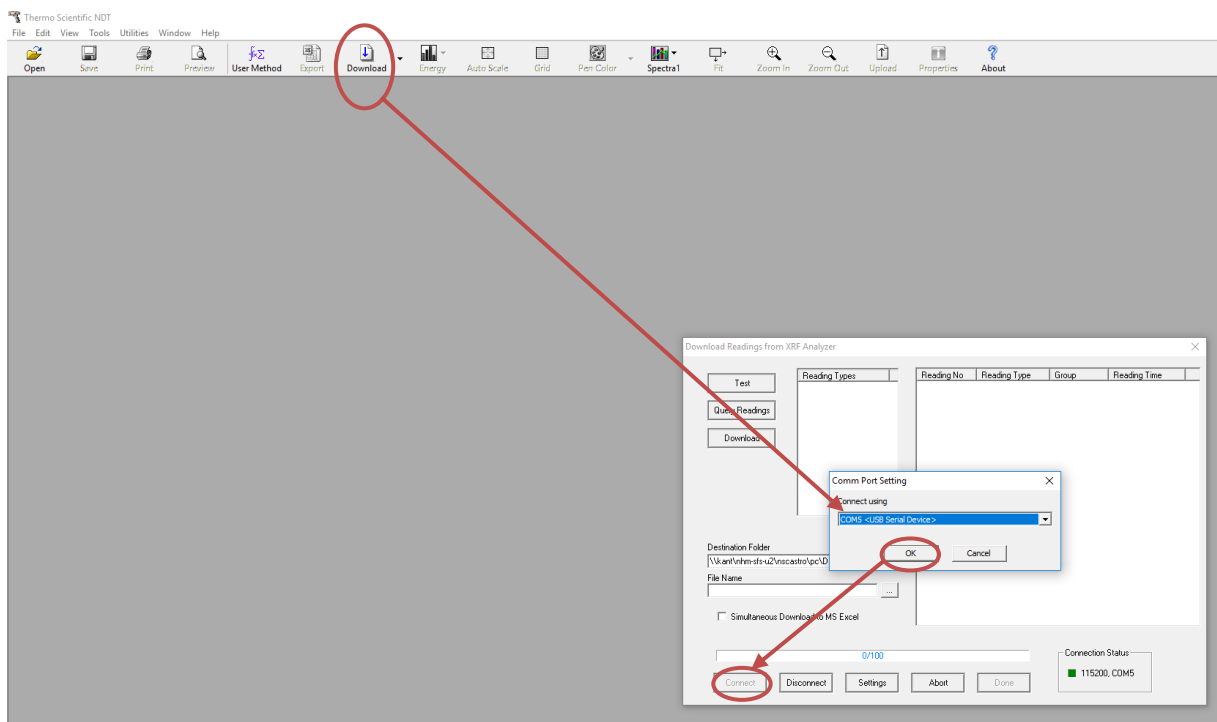

Figure 11: Using the DNT program to download data from the portable XRF analyzer.
- 2) Click *Download* and choose the “*USB Serial Device*” port. Click *OK* and then *Connect* (Fig. 11).